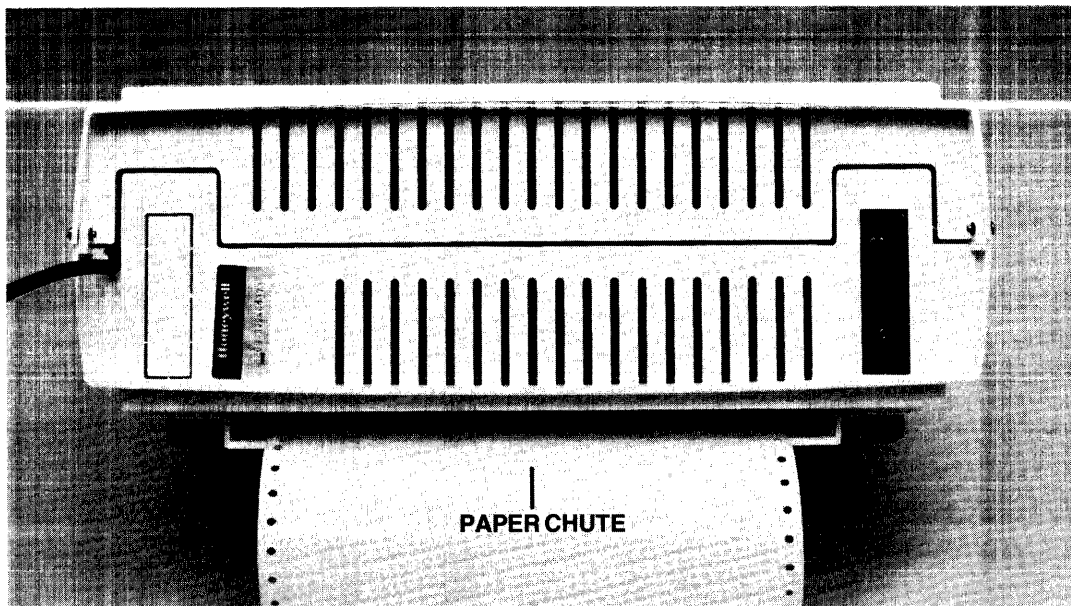

Figure 3-3. Paper Chute
- a. Check the paper chute (Figure 3-3) on the back of the printer to see if paper coming out of the top of the printer is resting on the top of the paper entering the paper chute.
4. With both hands, feed the folded paper into the paper chute (Figure 3-3) located under the printer. Keep feeding the paper into the chute until you see the top of the paper appear just above the protective plastic shield under the platen. See Figures 2-4 and 3-4.
Note: When printing starts, you must ensure that the first few forms coming out of the printer are stacked properly in back of the printer. This attention is necessary to avoid paper dropping over the back of the printer and resting on top of the paper entering the paper chute (Figure 3-3), which could cause an internal paper jam.